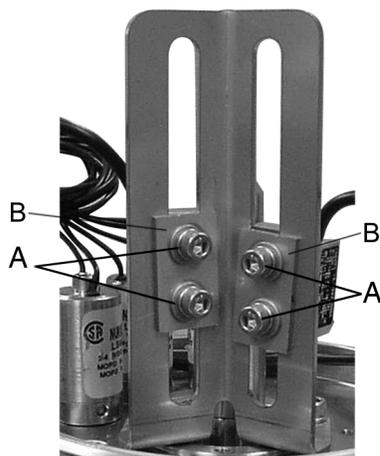

Figure 14: Control Module Detail
1. With the valve in Divert Position (stem raised), adjust the switch up or down so the roller on the switch arm is in the groove against the upper shoulder on the indicator stem. Adjust the switch position using the two cap screws (Figure 14, item A) on the switch plate (Figure 14, item B).